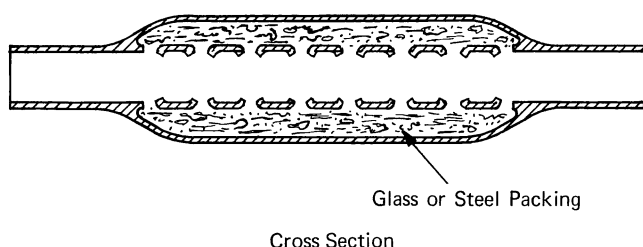

Fig. 16-11 Cutaway view of a straight-through packed muffler
**Muffler Design.** Exhaust system engineers have advanced to a point where they are designing quite efficient silencers for today's motorcycles. They now avoid the use of the old straight-through fiberglass-packed muffler in favor of the internally baffled chambered type (Fig. 16-11).